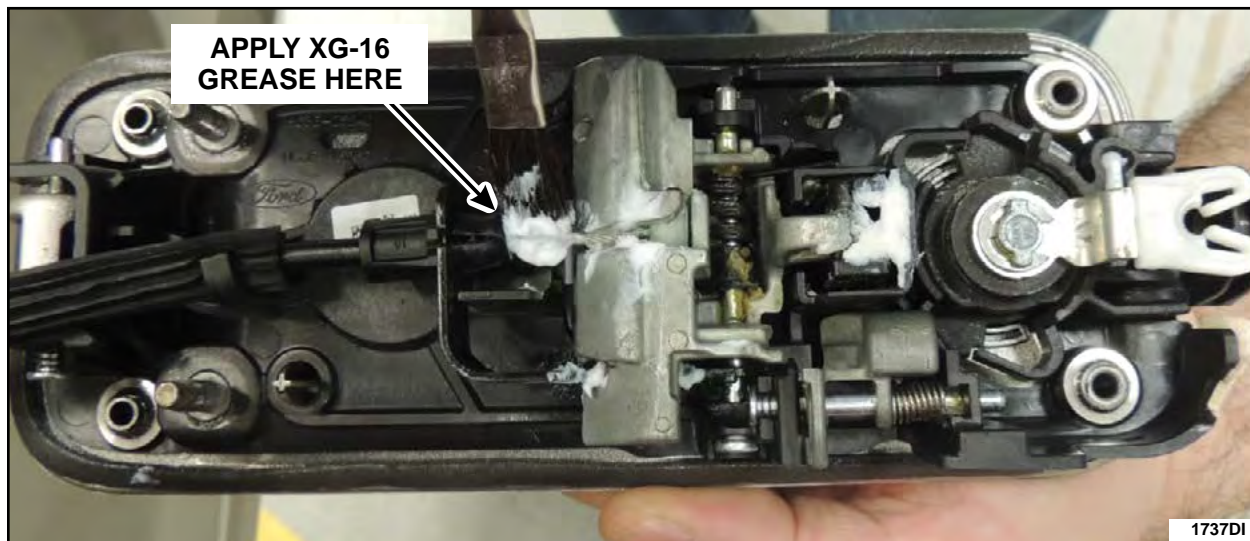

FIGURE 50
22. Reconnect the exterior door handle cable to the door handle, then lubricate the door handle cable end with Motorcraft® XG-16 low temperature grease, as shown in Figure 50.